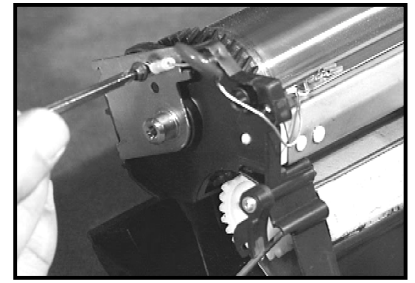

Figure 12
21. Reinstall the corona wire assembly, attach the ground clip to axle with axle screw (fig. 12).